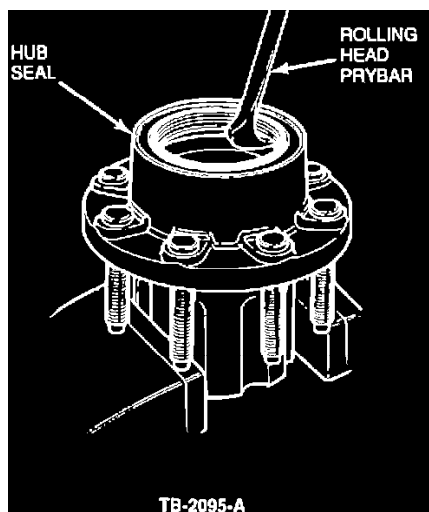

Figure 1
2. Remove the hub seal as shown in Figure 1.